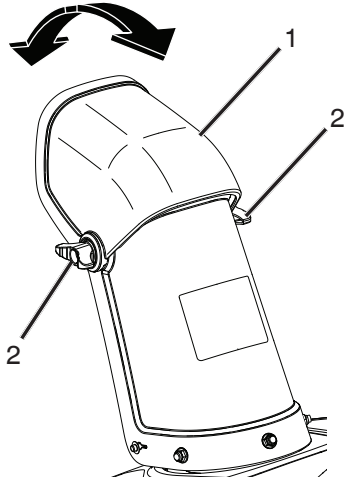

Figure 19
- To raise or lower the angle of the chute deflector, loosen both chute deflector knobs on the chute deflector and move the chute deflector up or down to desired position and retighten knobs (Figure 19).